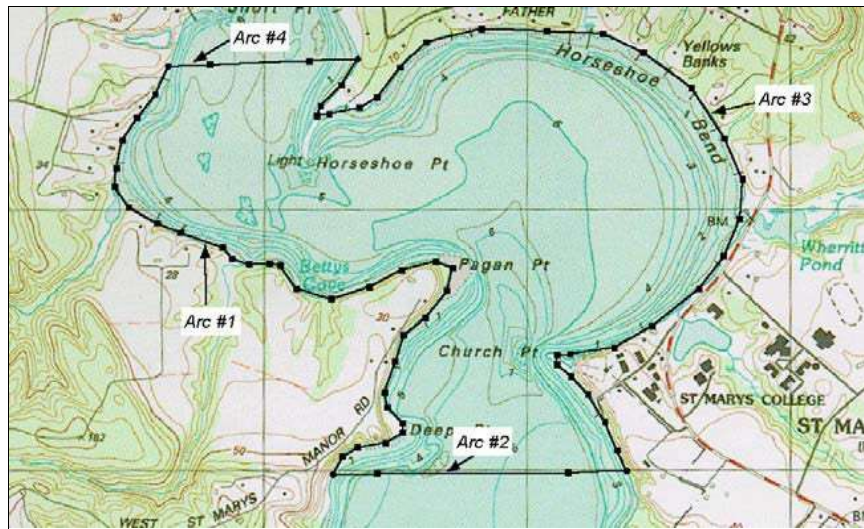

Figure 9 All feature arcs have been created
1. In the same manner just described, create the remaining three arcs, as shown in Figure 9.
2. Click on the arc that follows the left of the river bank, labeled *Arc #1* in Figure 9 above. (Note: The addition of the conceptual model split *Arc #1* into four segments; hold the *Shift* key down to select all four segments.)
1. Choose the **Select Feature Polygon**  tool and double-click on the bottom middle polygon (the shape is seen in Figure 9 above). The *2D Mesh Polygon Properties* should appear.
3. Click on the node at the center of the left side, as seen in Figure 9.